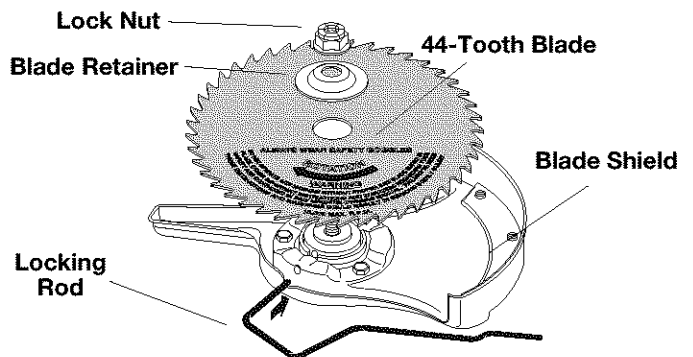
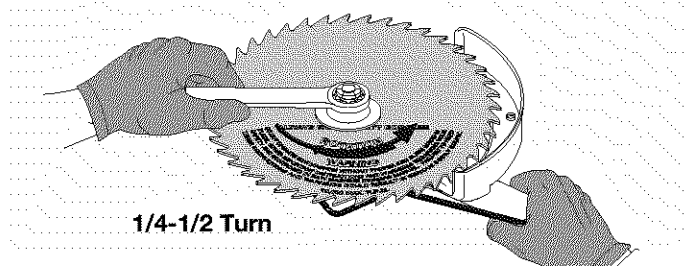

Fig. 8
Fig. 9
4. Install the blade, blade retainer and lock nut (Fig. 8). Insert the locking rod through the slot into the output shaft hole. Make sure that the blade stays flat and centered against the output shaft while tightening the lock nut counterclockwise (Fig. 9).
If you do not have a torque wrench, hold the locking rod in the slot. Rotate the lock nut counterclockwise with a 5/8 inch closed-ended or socket wrench, until the lock nut presses against the washer and the blade is snug. Make sure the blade assembly is installed correctly, then rotate the lock nut an additional 1/4-1/2 turn (Fig. 9).